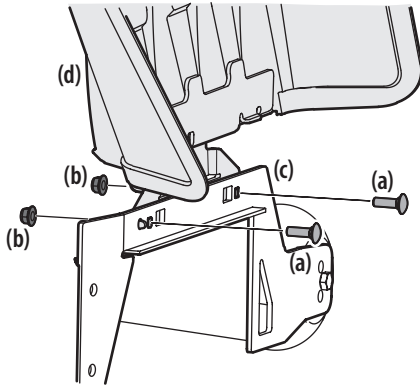

Figure 2-1
1. Remove the carriage screws (a) and flange lock nuts (b) installed on the mounting bracket (c) on the deck. See Figure 2-1.
2. With the previously removed hardware (a & b), install the discharge chute deflector (d) on the deck as shown in Figure 2-1.